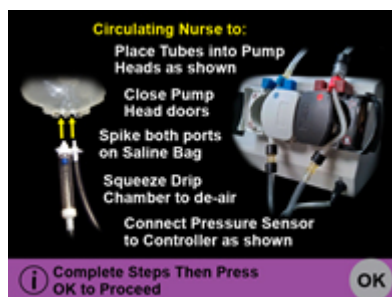

Figure 23
Continue the Fluid Management Accessories setup following the instructions on the Controller screen (Fig. 23).
**CIRCULATING NURSE** – When pressure sensor is connected press OK on the Controller Screen (Fig. 23).